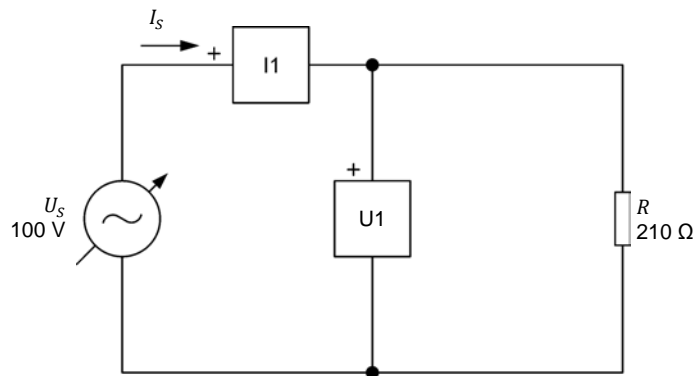

Figure 1-20. AC circuit containing a resistor, as well as a voltmeter and an ammeter for voltage, current, and power measurements.
4. Set up the circuit shown in Figure 1-20.